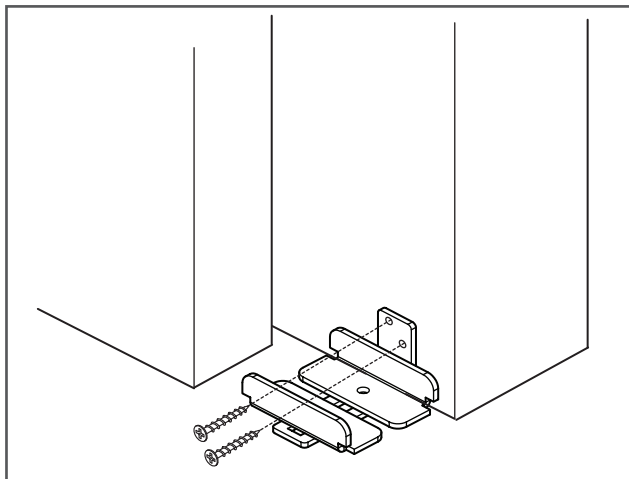

Figure 4
4. Slide the door to the open position (Figure 4).